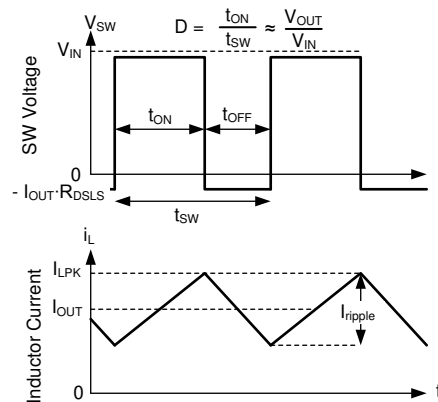

Figure 8-20. SW Voltage and Inductor Current Waveforms in Continuous Conduction Mode (CCM)
The following operating description of the LM6x4xx refers to Section 8.2 and the waveforms in Figure 8-20. Both supply a regulated output voltage by turning on the internal high-side (HS) and low-side (LS) NMOS switches with varying duty cycle (D). During the HS switch on-time, the SW terminal voltage, V_{SW} , swings up to approximately V_{IN} , and the inductor current, i_L , increases with a linear slope. The HS switch is turned off by the control logic. During the HS switch off-time, t_{OFF} , the LS switch is turned on. Inductor current discharges through the LS switch, forcing V_{SW} to swing below ground by the voltage drop across the LS switch. The regulator loop adjusts the duty cycle to maintain a constant output voltage. D is defined by the on-time of the HS switch over the switching period: $D = T_{ON} / (T_{ON} + T_{OFF})$.